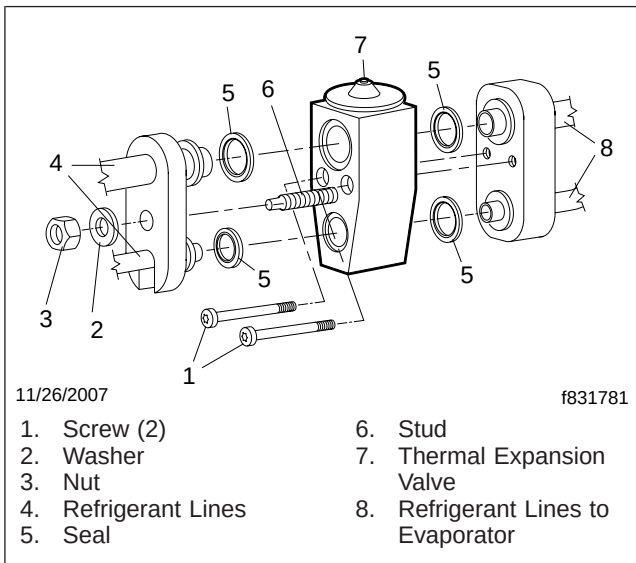

Fig. 8, Thermal Expansion Valve Installation
16. Using new seals, connect the refrigerant lines to the thermal expansion valve. Tighten the lines 11 to 15 lbf·ft (15 to 20 N·m). See Fig. 8.